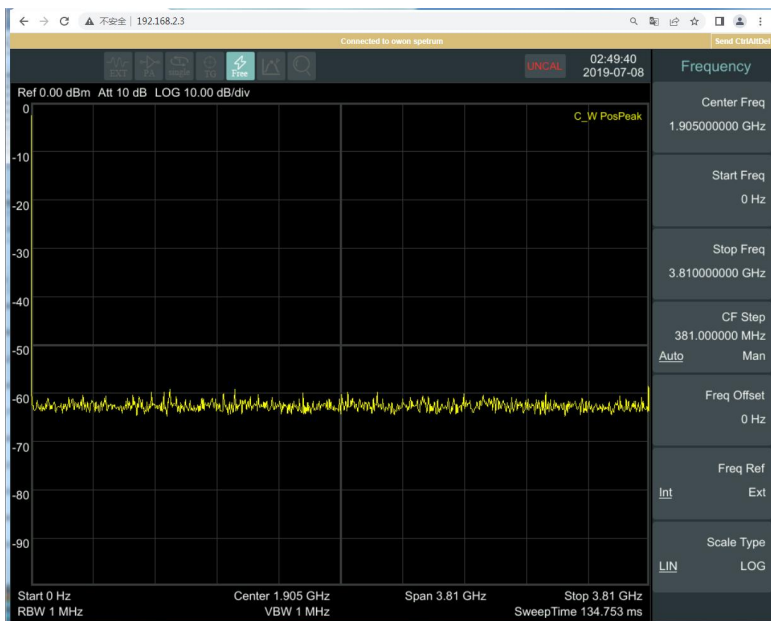

Figure 4-3 Host Software interface
- 3) Log in to the spectrum analyzer, open a web browser and enter the IP address of the spectrum analyzer module (the default address is 192.168.1.13). Press Enter to connect. After a successful connection, the spectrum analyzer display will appear, and it can be operated using the keyboard and mouse. You can switch menus by clicking the shortcut menu in the top-left corner, as shown in Figure 4-3. Alternatively, you can use the corresponding keys on the keyboard.